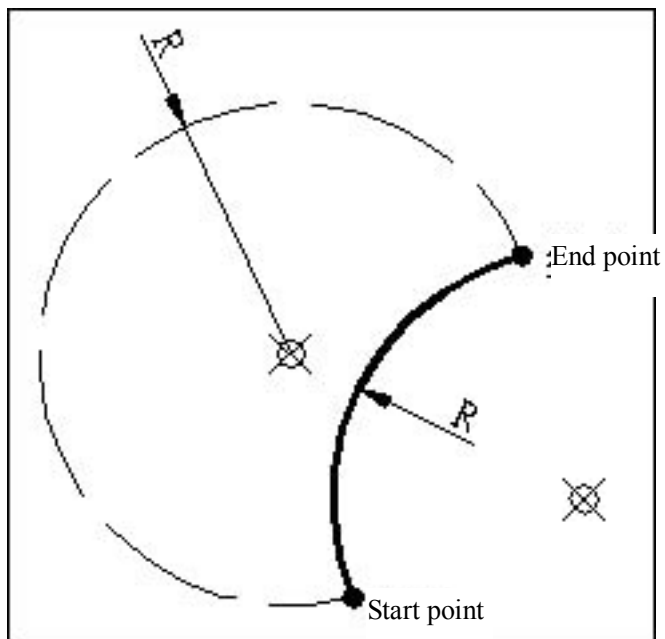

Fig. 3-4-4
- When in G02/G03 program segment I and K instruction characters are used to define the center of circle, even if the end point is not on the circular arc, the system won't alarm. The locus can be described as: Based on the center of circle, it moves along the circular arc on both axis X and axis Z. When the coordinates on axis X is the same as that on axis Z, axis X or axis Z will stop moving, and the other axis (axis Z or axis X) will go on moving till the end point is reached. See Fig. 3-4-4 below.